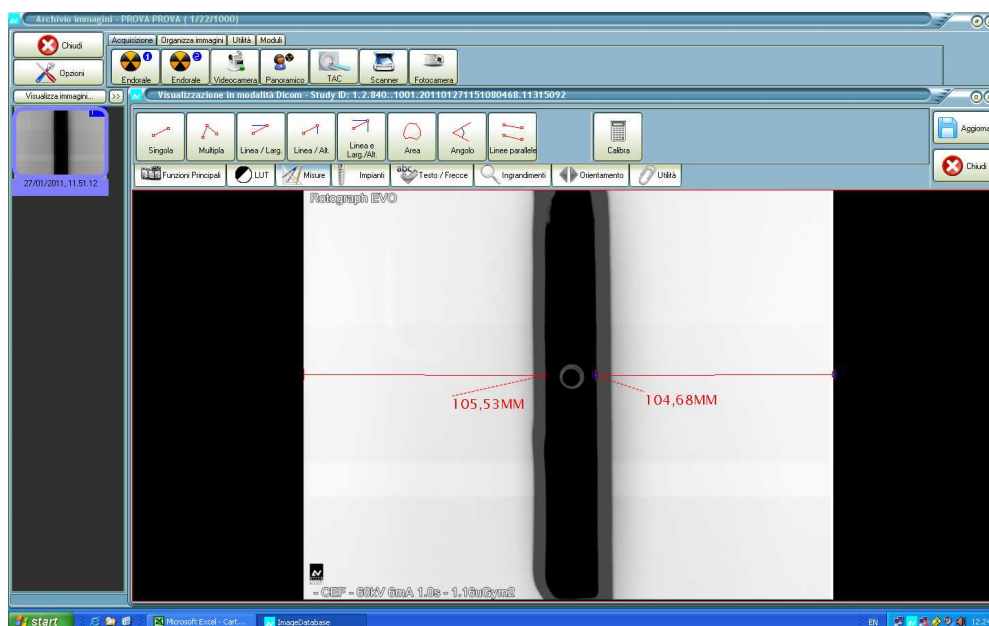

Figure 9-25
- 23.** Measure the distance between the borders of the image and the borders of the central vertical stripe (Figure 9-25).